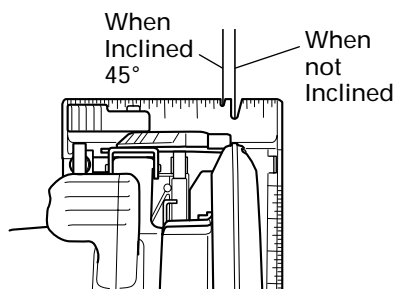

Fig. 14
1. Place the saw body (base) on the work piece, and as in Fig. 14 align the intended line of cut with the saw blade, using the notch at the front of the base. This relationship of base to work pieces should remain unchanged regardless of the inclination of the base.
4. Tilt saw forward and align the notch (Fig. 14) with the pre-marked guide line.